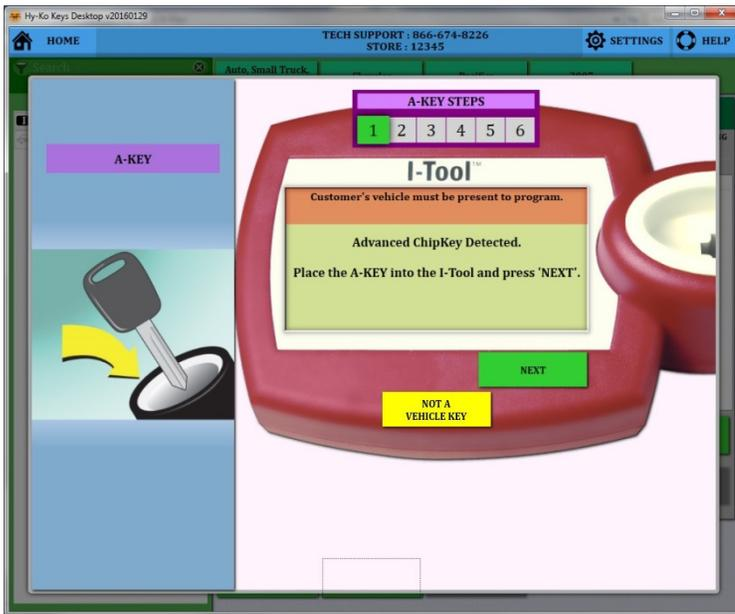

fig. 85
- The software will switch to the I-Tool screen (see fig. 85).